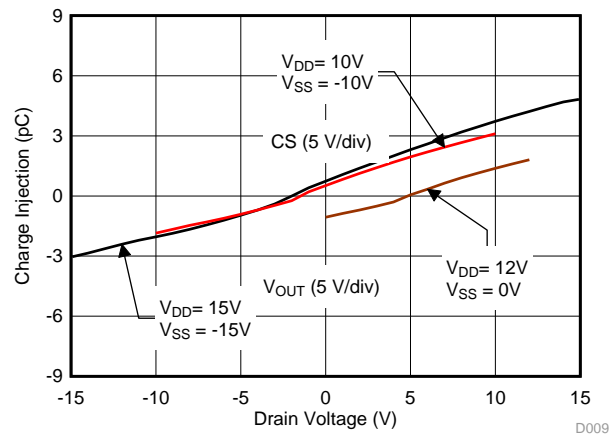

Figure 32. Drain-to-Source Charge Injection vs Drain Voltage
The drain (D)-to-source (S_x) charge injection becomes important when the device is used as a demultiplexer (demux), where the drain (D) becomes the input and the source (S_x) becomes the output. Figure 32 shows the drain-to-source charge injection across the full signal range.